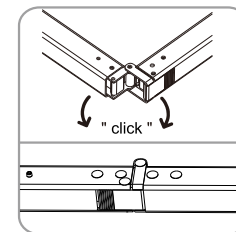

Figure 5
3. To secure frame, "click" hinges into place. Extend horizontal side of main frame ( Figure 5 - 6 ).